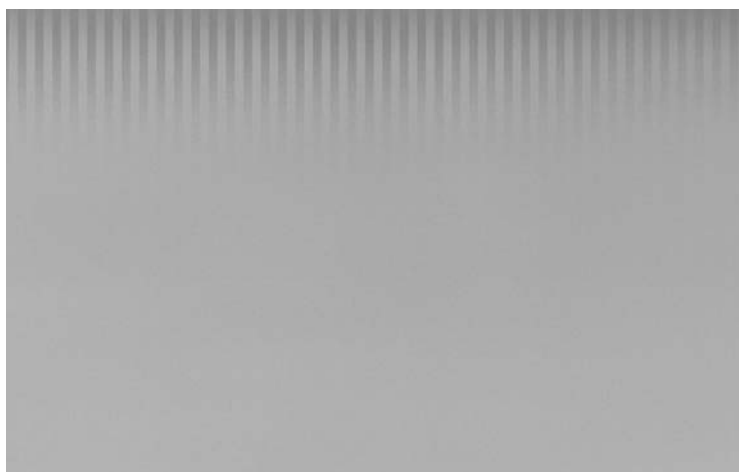

Figure 1. Example of Vertical Stripes
- 2) Stripes are visible primarily in the top or bottom of image (as in Figure 1).